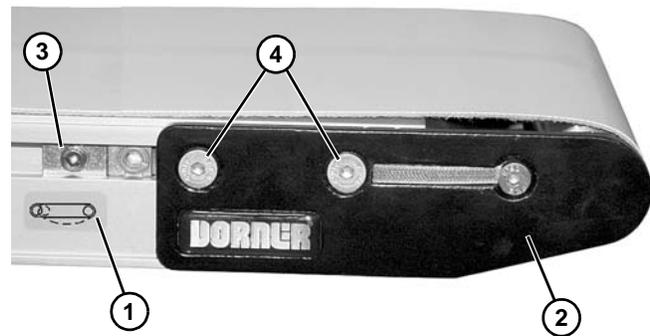

Figure 116
1. On tension end of the conveyor, identified with  a label (**Figure 116, item 1**), push in head plate assembly (**Figure 116, item 2**):
- a. On both sides of conveyor, loosen and move cam tracking assemblies (**Figure 116, item 3**) (if equipped) away from head plates.
- b. Loosen fastening screws (**Figure 116, item 4**) and push head plate assembly inward.